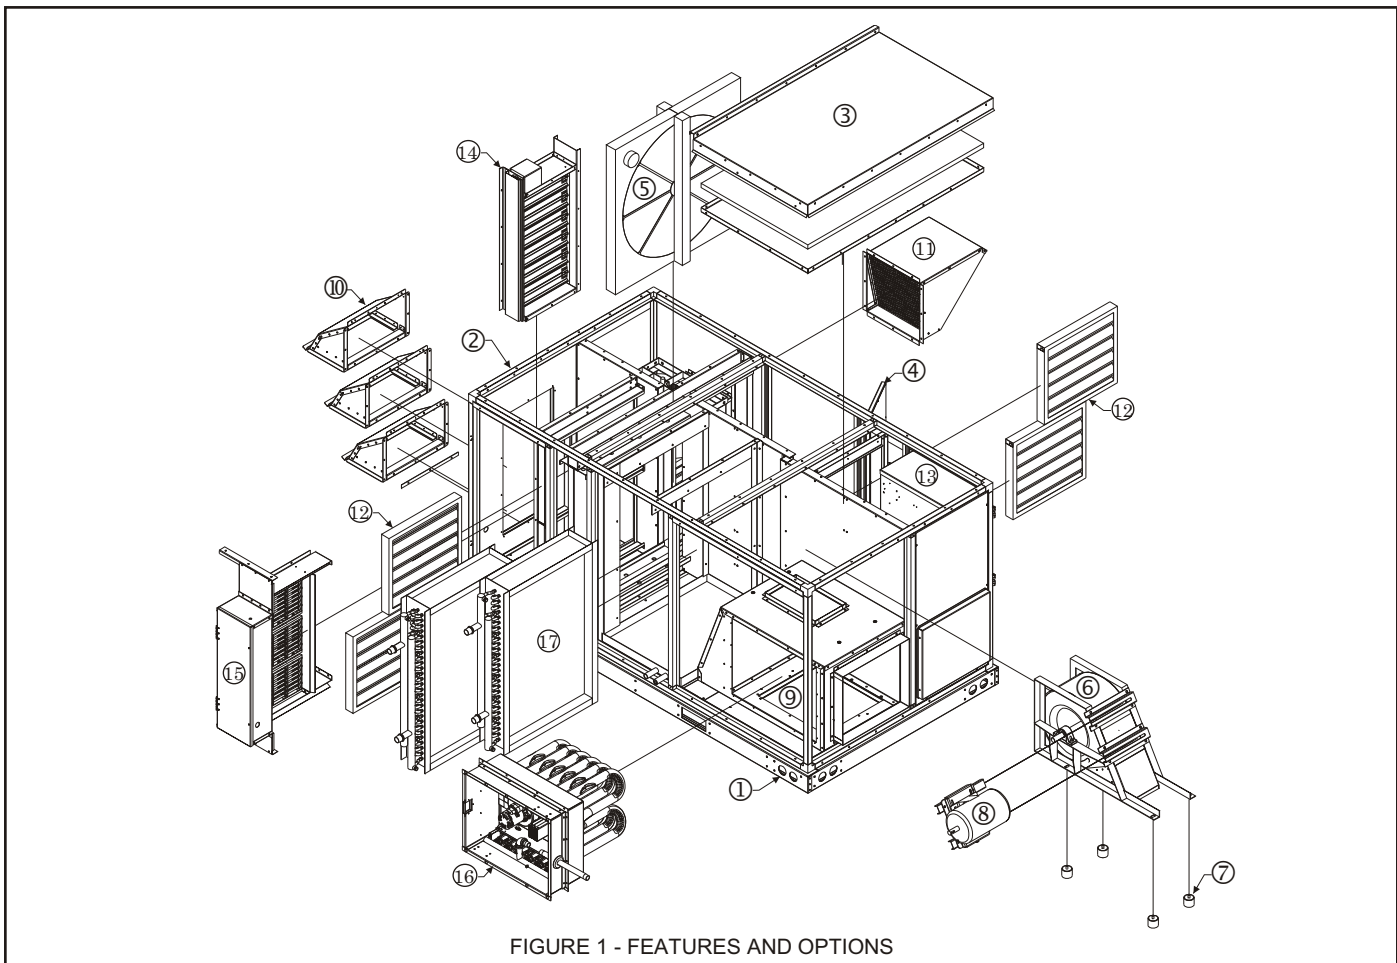

FIGURE 1 - FEATURES AND OPTIONS
### **I - FEATURES and OPTIONS (Figure 1)**
**Figure 1** shows the parts arrangement for the ENERVENT+ series, including major standard features and factory-installed options that are offered and; therefore, may be included in the unit being installed. The unit shown is the EVT-09; however it is typical of the entire series with regard to component location, features, and options available.